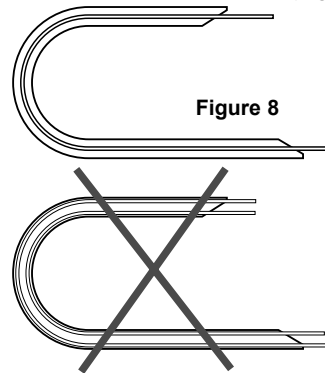

Figure 8
4. Cables/hoses should be installed along the centerline of the carriers (Fig. 8). This eliminates undue cable/hose wear caused by excessive contact on the inner or outer radius of the chain. Be sure cables/hoses are not under tension or installed with too much slack.